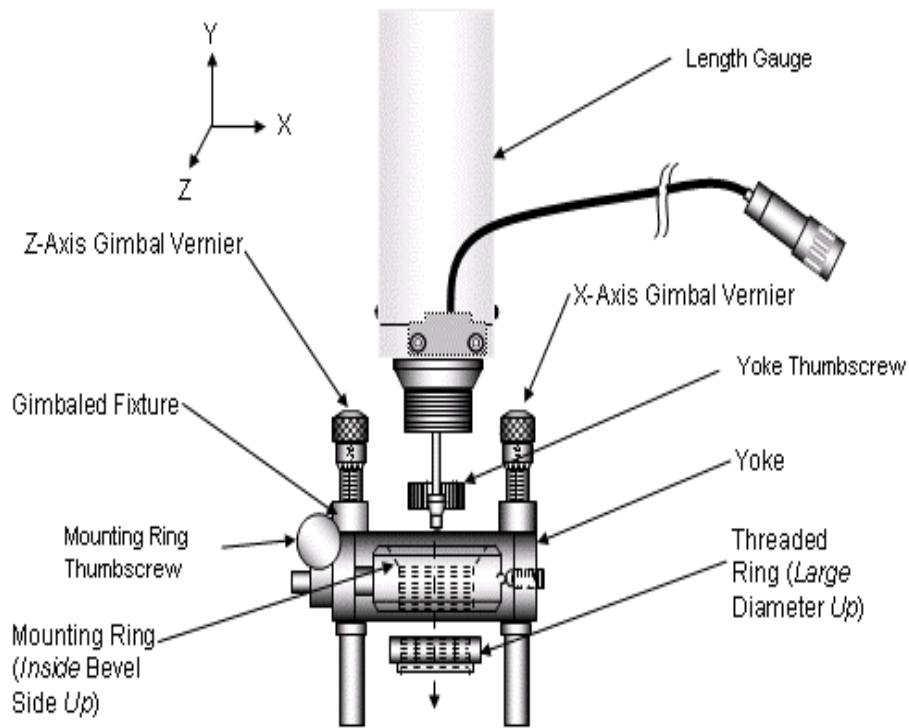

Figure 2. Gimbaled fixture and length gauge.
- e. Loosen mounting ring thumbscrew (fig. 2). Adjust mounting ring until the length gauge shaft is in direct vertical alignment with the TI shaft. Tighten mounting ring thumbscrew.
f. Loosen yoke thumbscrew and adjust YOKE (fig. 2) so that the length gauge shaft is in direct vertical alignment with the TI shaft. Tighten yoke thumbscrew.
h. Adjust X-AXIS GIMBLE VERNIER (fig 2) to highest value reading on length gauge indicator. Repeat for Z-AXIS GIMBLE VERNIER (fig 2). Repeat as necessary for best possible setting.